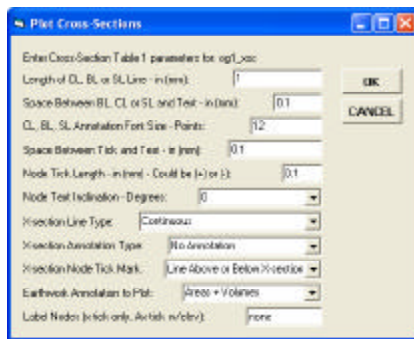

Figure 16
- Enter the values for each of the parameters, shown in Figure 16, click at the:
From Figure 16 it can be seen that earthwork quantities are desired by the Areas + Volumes response to the *Earth Annotation to Plot* parameter. As such, we are now able to specify the appropriate Shrink, Swell and Much factors that are to be used in the calculations.